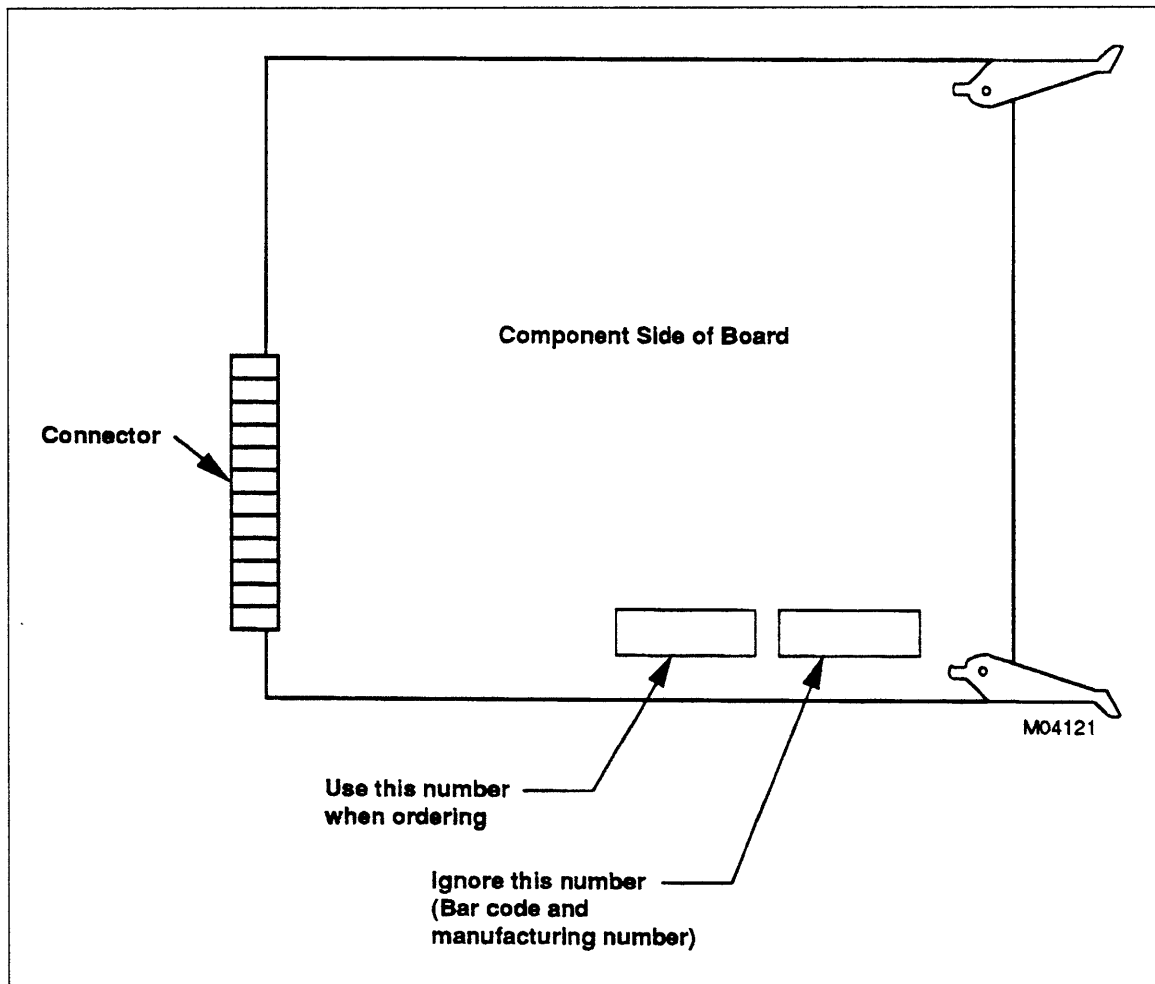

Figure 10-1. Finding the Part Number on a Board
- Part No - Part number used to order the board. The last number in the table is the latest available version (as of date this manual is printed). You always get the latest interchangeable version when ordering a new board. Figure 10-1 shows where find the part number on a board assembly.